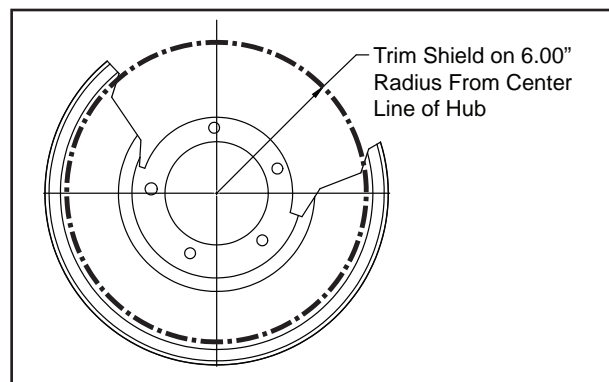

Figure 2. Dust Shield Modification
- The front dust shield must be modified (cut), as shown by the black dotted line in Figure 2, to clear the new Wilwood rotor. **NOTE:** It is recommended that the dust shield be removed before modification, and the modification be performed by a qualified machine shop.